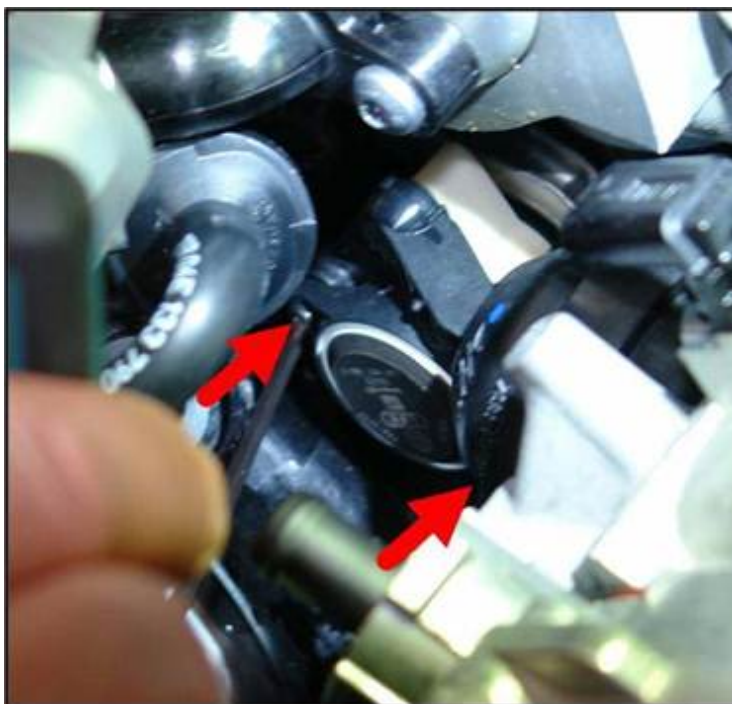

Figure 10. Bolts to be removed (arrows)
10. Remove the intake manifold runner position sensor by using a ball head torx bit to remove the bolts (Figure 10, arrows).